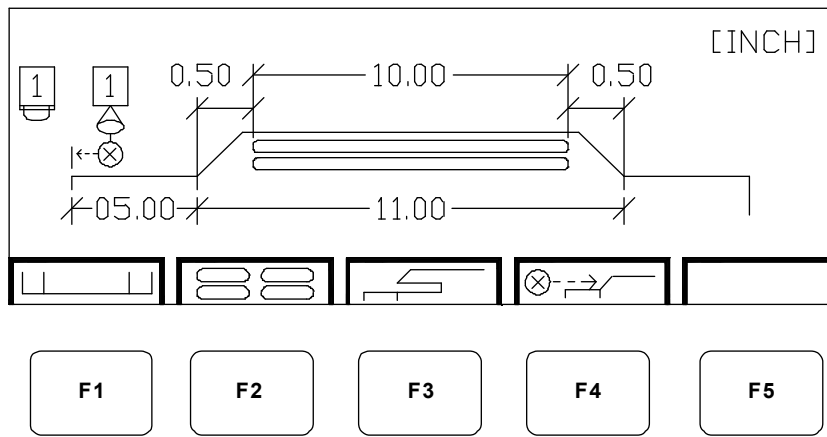

Figure 10-8. Single-Pattern Screen (Tab Side)
1. To select a single glue pattern, press F2 (). A single glue pattern is selected and displayed (Figure 10-8).